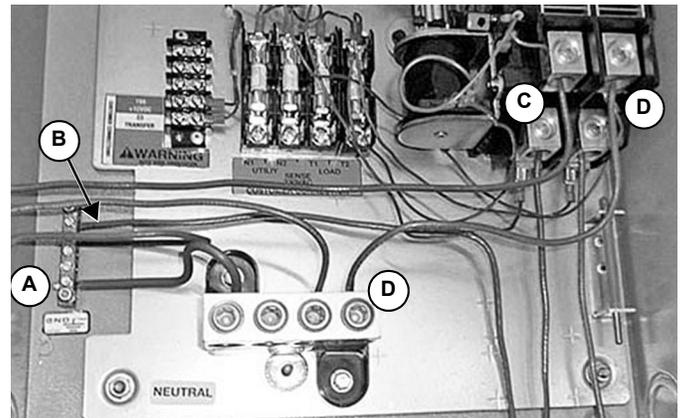

Figure 2-8.
15. Connect the generator fed earth (green/yellow, B) to the provided neutral connection block (Figure 2-8).
16. Connect the active (Hot) brown wire (C) to the top lug on the bottom of the of the transfer mechanism (Figure 2-8).
17. Attach the Neutral (blue) wire to the neutral lug (Figure 2-8).
18. Connect a neutral blue wire (D) from the neutral lug to the top lug of the bottom of the transfer mechanism. Be sure to match Brown for Brown, and Blue for Blue in the corresponding lugs (Figure 2-8).